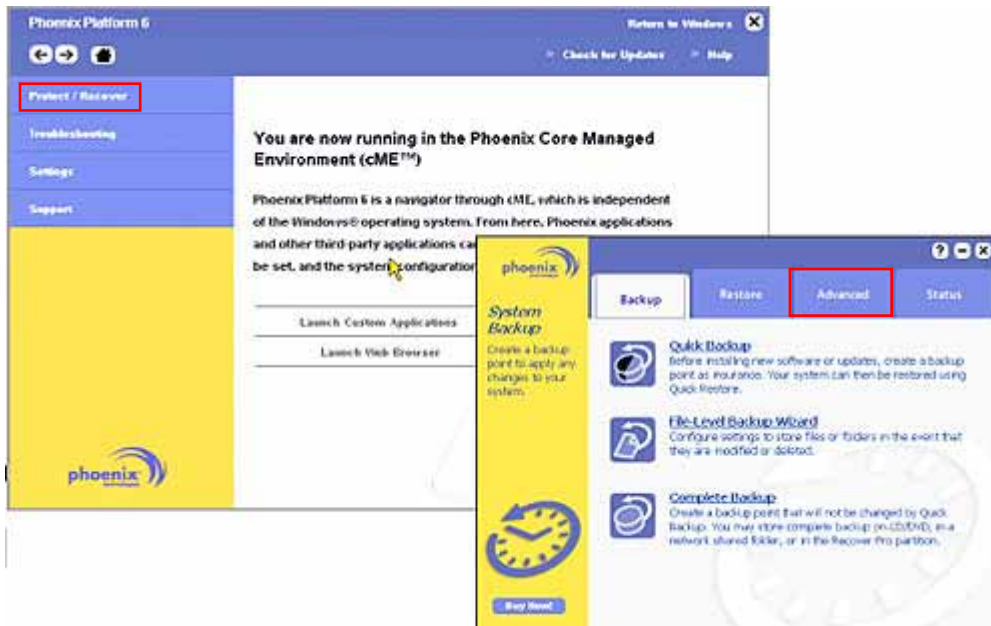

Fig 8-2 Phoenix Always
- 5) Among Always display (Fig 8-2) menu, push Protect / Recover.